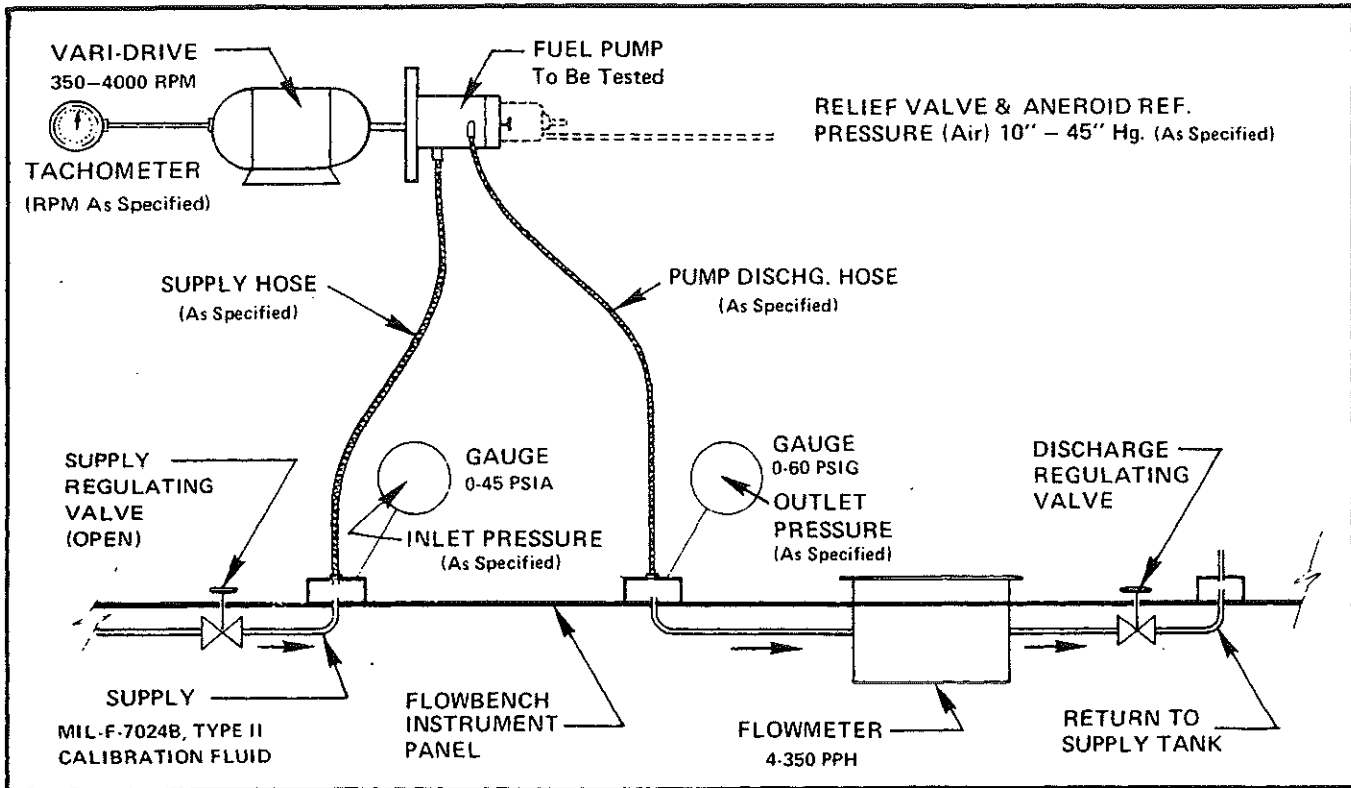

FIGURE 70-01. FUEL PUMP TEST SCHEMATIC.
A. Install pump to be tested on flow bench in accordance with the schematic shown in Figure 70-01.